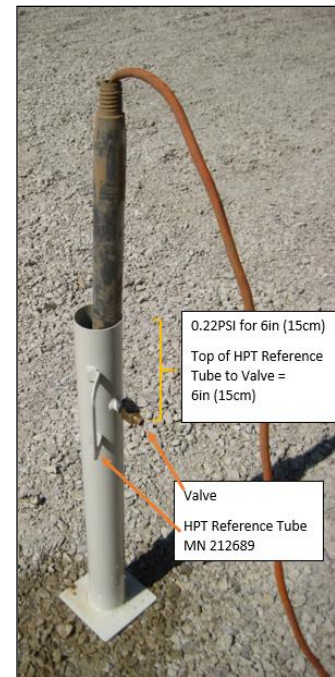

Figure 5.5: HPT Reference Test Setup
3. Insert the probe into the HPT reference tube and allow the water to flow out the valve adjusting the flow rate to between 250-300ml/min (Fig. 5.5). Ensure that the reference tube is close to vertical.